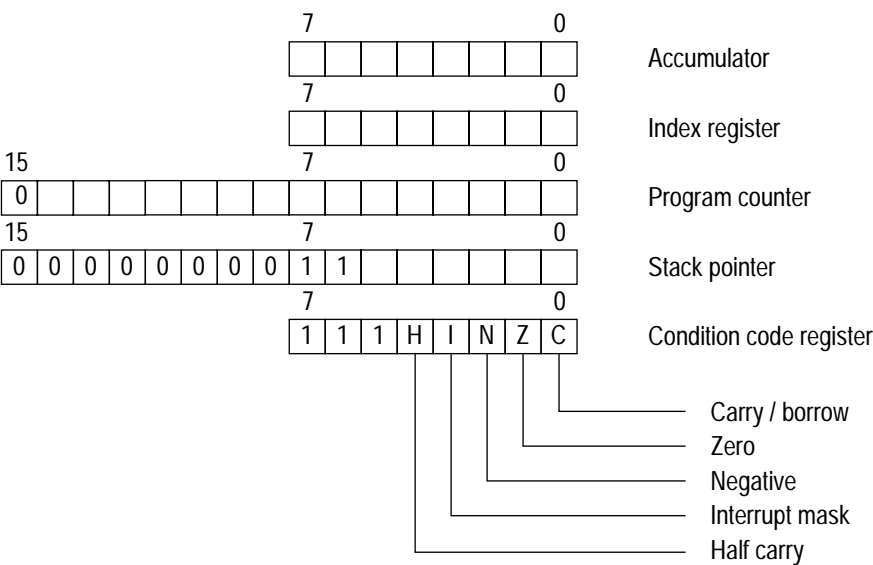

Figure 55. Programming model of the MC68HC05D24
The programming model of the MC68HC05D24 is identical to that of the MC68HC05D9, except for the program counter (see Figure 55). Only bit 15 of the program counter (PC) in the MC68HC05D24 is permanently